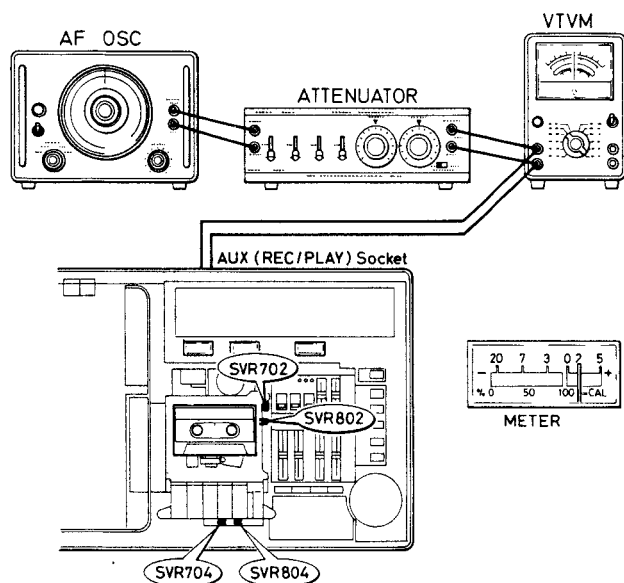

Fig. 21
- Apply inputs of 100Hz, 1kHz and 10kHz -30 dB to the unit at AUX. Set the unit in the recording mode. (Fig. 21)